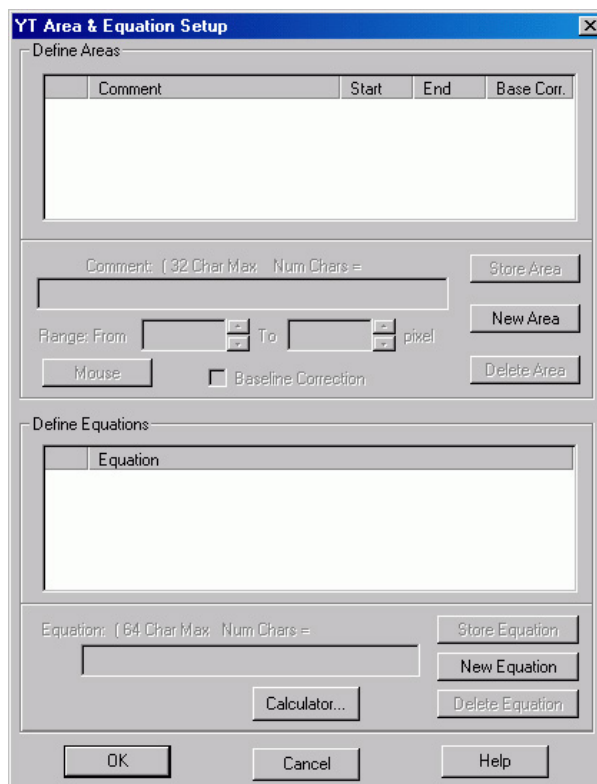

Figure 114. YT Area and Equation Setup dialog
2. Select **YT Setup...** on the **Acquisition** menu. This will open the **YT Area and Equation Setup** dialog (Figure 114).